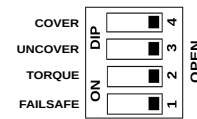

Figure 10: DIP-Switch
- Unscrew the cover and ensure that all DIP switches are in OPEN position as shown in Figure 10. Make sure that ALARM STATUS LED is not blinking for error.
1. Unscrew the cover and ensure that all DIP switches are in OPEN position as shown in Figure 10. Make sure that ALARM STATUS LED is not blinking for error.